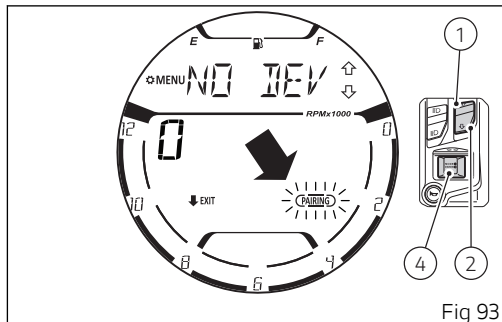

Fig 93
Upon entering the function, use buttons (1) and (2) to select the "PAIRING" item with flashing frame and press button (4) (Fig 93).